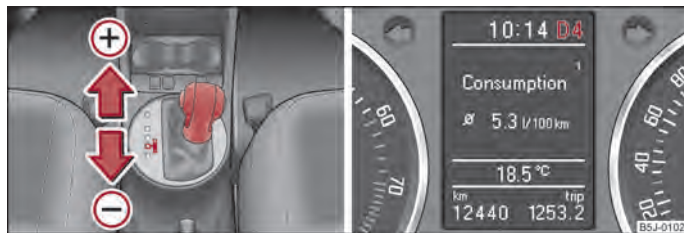

Fig. 89 Selector lever: manual shifting/large information display: Manual shifting of gears
The selector lever position you have engaged is indicated in the information display of the instrument cluster together with the engaged gear → fig. 89 on the right.
- One-touch forward of the selector lever (in the Tiptronic position) → fig. 89 ⊕.